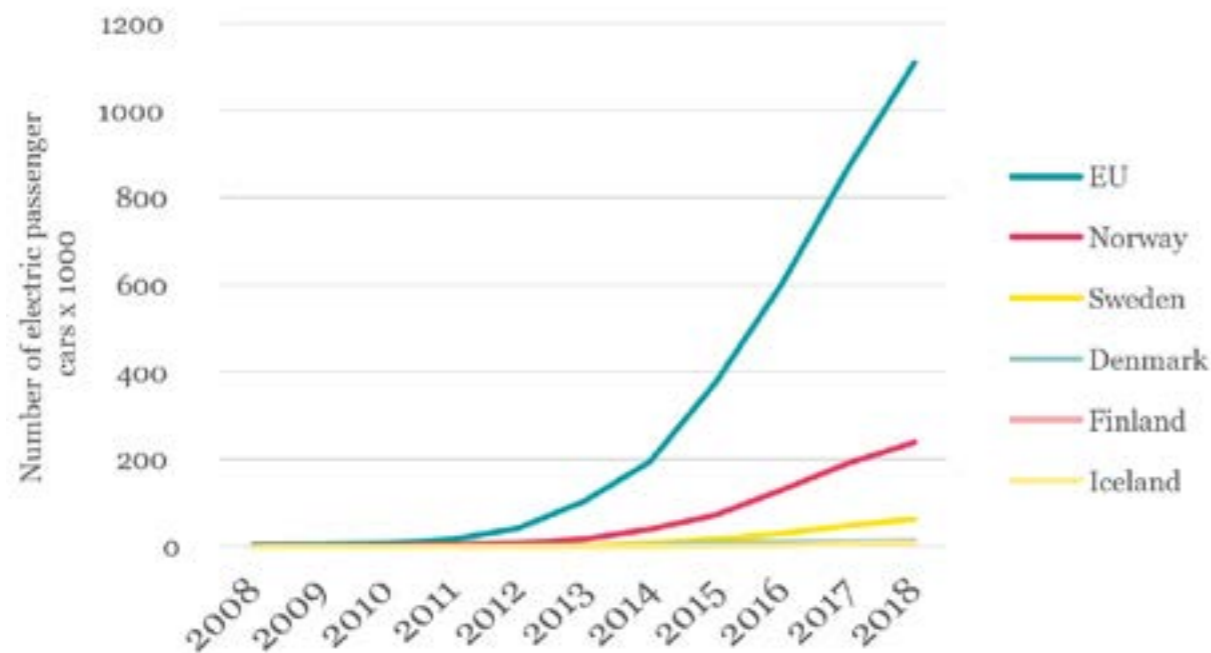

Figure 1 - The growth in electric passenger cars in Europe and the Nordic countries [3]
Figure 1 shows how the number of electric passenger cars in the Nordic countries compares to the rest of the EU according to the European Alternative Fuels Observatory. Together, the Nordic countries represent the largest electric vehicle market in the EU, with most purchases being made in Norway and Sweden (4).